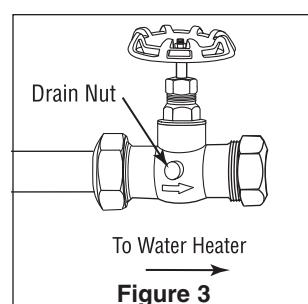

Figure 3
3. Using the compression fitting, attach the stop and waste valve on pipe to the water heater, with indicator arrow pointing towards the AP430SS assembly, so that drain nut can be accessed to release pressure when changing cartridge. Be sure the drain nut is firmly tightened. (Figure 3)